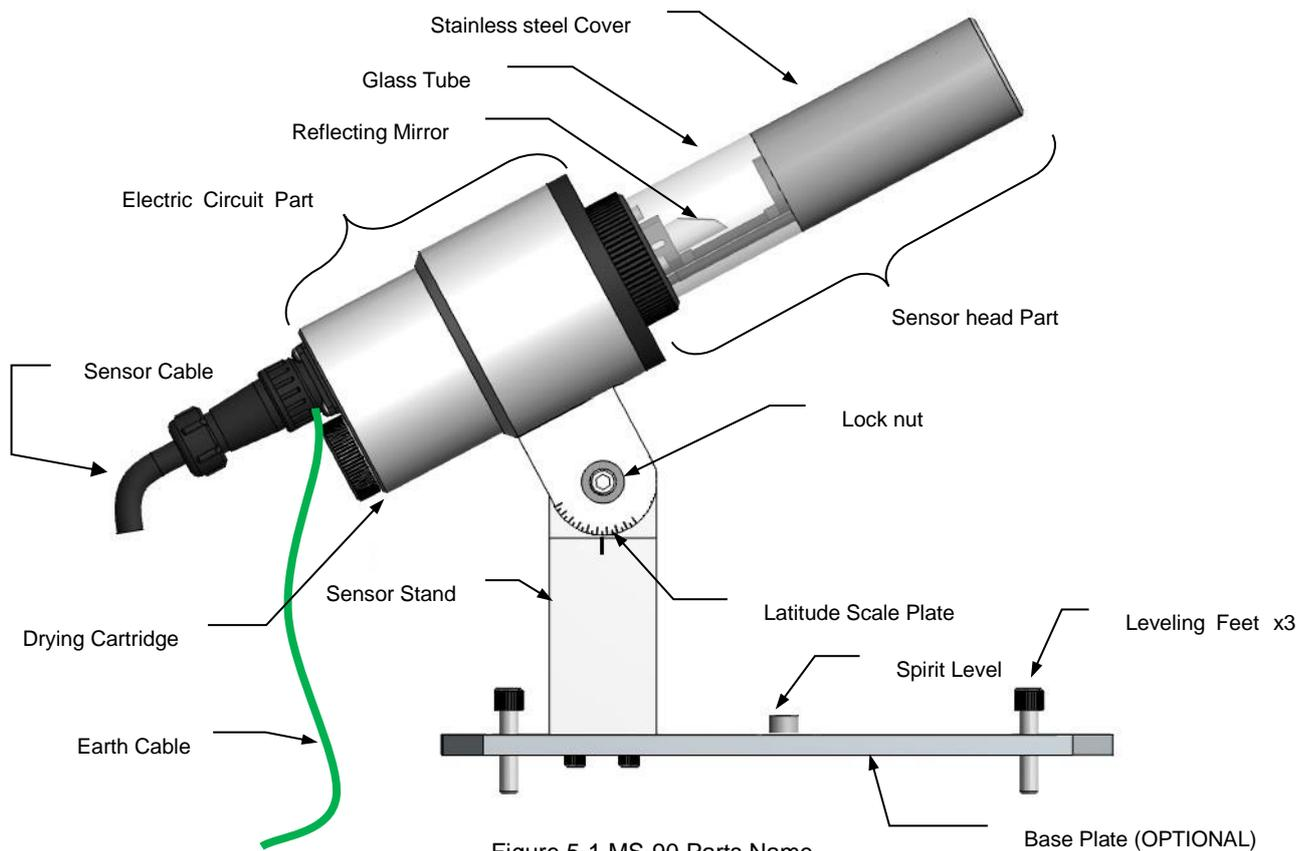

Figure 5-1.MS-90 Parts Name
- 1) Mount MS-90 main unit on the base plate (refer to Figure 5-1).